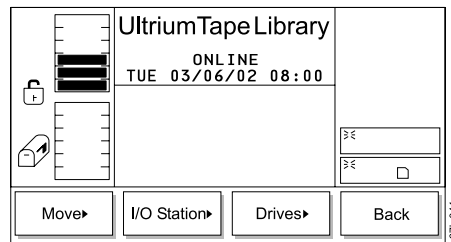

Figure 162. Command Menu
1. From the Main Menu's initial screen, press the button below the **Command** softkey. The Command Menu displays (see Figure 162).